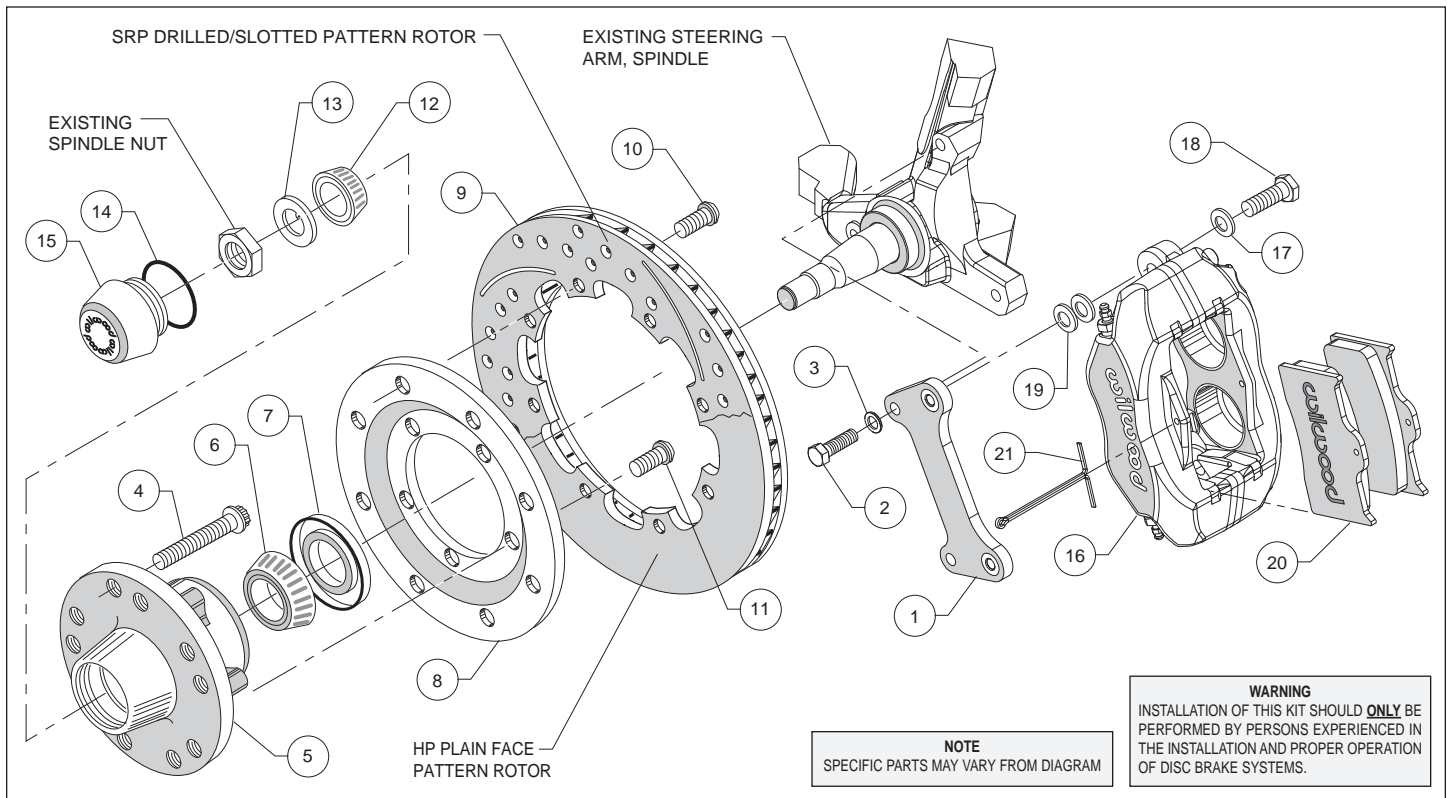
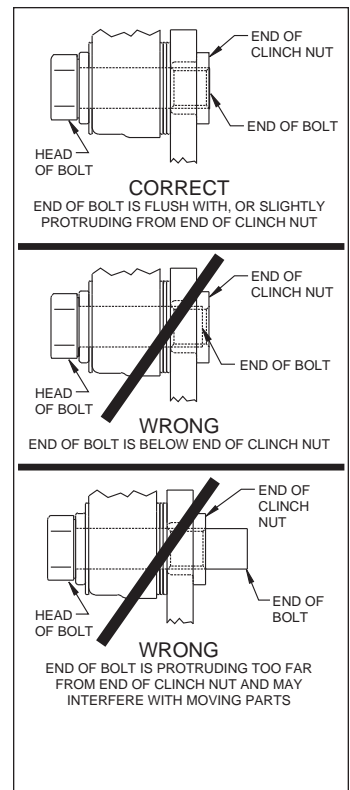

Figure 2. Typical Installation Configuration
Figure 4. Clinch Nut Engagement Diagram
Assembly Instructions (numbers in parenthesis refer to the parts list on the preceding page, and Figure 2 above): **CAUTION:** All mounting bolts must fully engage insert nuts. Be sure to check that all bolts are either flush or protruding through flanged side of clinch nut after shimming, Figure 4.
- Align caliper mounting bracket (1) with the corresponding holes, to the face of the spindle and attach using bolts (2) and washers (3), as shown in Figure 2 and Photo 1. Temporarily tighten the mounting bolts. Ensure that the flanged heads of the clinch nuts in the bracket are facing outboard, Photo 1. **NOTE:** The bracket must fit squarely against the mounting points on the spindle. Inspect for interference from casting irregularities, machining ridges, burrs, etc. Remove bolts one at a time, apply red *Loctite*® 271 to threads, and torque to 40 ft-lb.
- Install wheel studs (4) into the hub (5), Photo 2. Torque to 77 ft-lb. **NOTE:** There are two five lug patterns in the hub (5 x 4.50 and 5 x 4.75). Ensure the correct hub stud pattern is being used to fit the wheel application.
- Pack the large inner bearing cone (6) with high temperature disc brake bearing grease (available from your local auto parts store) and install into the backside of the hub (5), Photo 3.
- Install the grease seal (7) by pressing into the backside of the hub (5), flush with the end of the hub, Photo 3.
- Orient the rotor (9) and the rotor adapter (8) as shown in Figure 2 and Photo 4. Attach the rotor to the adapter using bolts (10). Using an alternating sequence, apply red *Loctite*® 271 to the threads, and torque to 25 ft-lb.
- Mount the adapter/rotor assembly (8/9) to the hub (5) using bolts (11), as shown in Figure 2 and Photo 5. Using an alternating sequence, apply red *Loctite*® 271 to the threads, and torque to 55 ft-lb.
- Pack the small outer bearing cone (12) with high temperature disc brake bearing grease and install into hub (5). Slide the hub/rotor assembly onto the spindle. Secure using spindle washer (13) and OEM spindle nut, Photo 6. Adjust bearings per OEM specifications. Install saved OEM nut lock (if any) and a new cotter pin (not included).
- Screw dust cap (15) into hub (5), Photo 7. Friction created by the o-ring (14) on the dust cap keeps it from unscrewing. **NOTE:** The O.D. of the existing OEM spindle washer may be larger than the I.D. of the dust cap not allowing it to seat against the hub face. Therefore, use the spindle washer (13) supplied with the kit instead of the OEM washer.
•**NOTE:** Please reference the caution statement at the beginning of the assembly instructions. Mount the caliper (16) onto the caliper mounting bracket (1) using bolts (18) and washers (17), as shown in Figure 2. Initially place two .035" thick shims (19) on each bolt between the caliper and the bracket, Photo 8. Temporarily tighten the mounting bolts and view the rotor (9) through the top opening of the caliper. The rotor should be centered in the caliper, Photo 9. If not, adjust by adding or subtracting shims between the bracket and the caliper. Always use the same amount of shims on each of the two mounting bolts. **NOTE:** The end of each bolt must be flush with or slightly protruding from the head of the clinch nut, as shown in Figure 4. If necessary place spare shims between washer (17) and caliper mounting ear to achieve the proper clinch nut engagement. Once the caliper alignment and clinch nut engagement are correct, remove the bolts one at a time, apply red *Loctite*® 271 to bolt threads, and torque to 40 ft-lb.